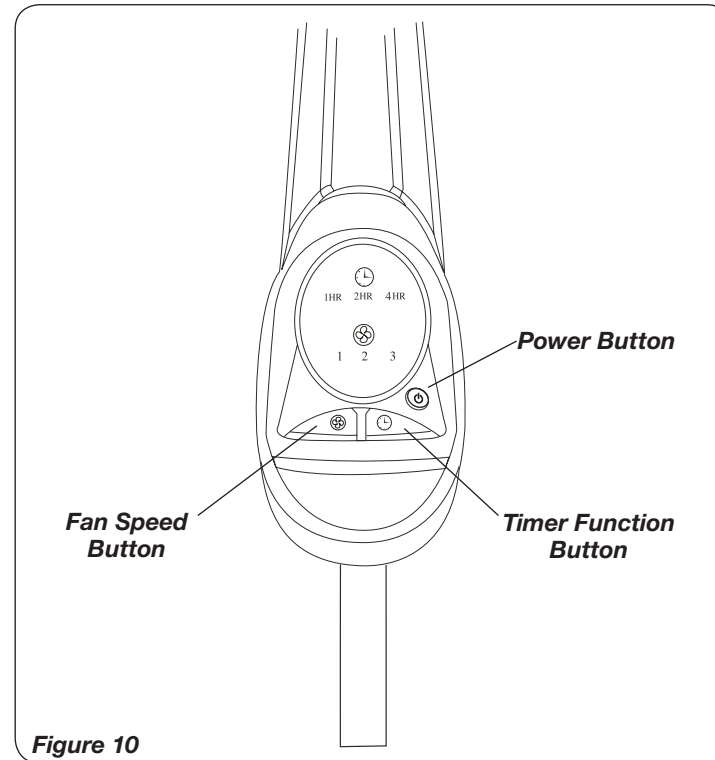
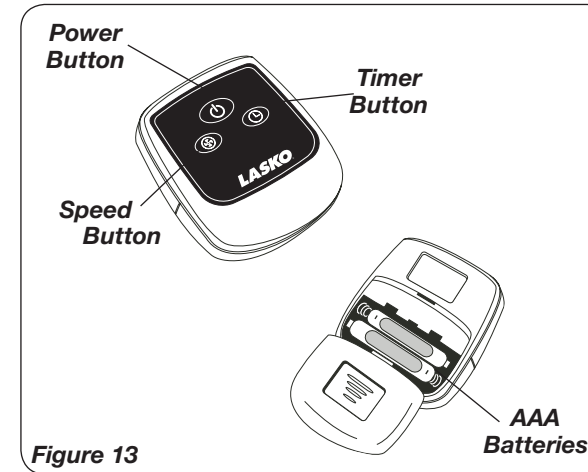

Figure 10
Figure 13
This Fan may be operated by the Manual Controls located on front of the unit (as shown in *Figure 10*) or by the Remote Control (shown in *Figure 13*).
1. Install batteries (not supplied) as shown in *Figure 13*. The battery is size “AAA”.